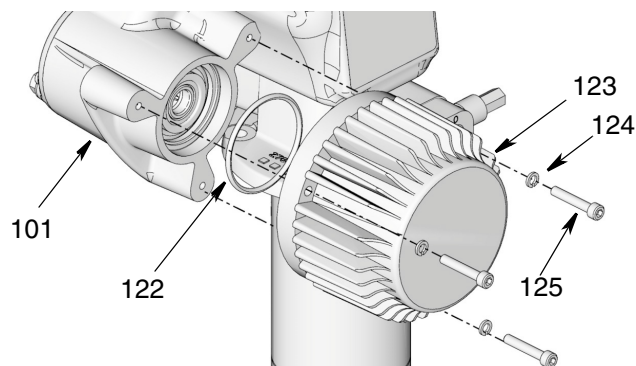

FIG. 57
2. Apply a thin layer of grease to o-ring (122). Install o-ring in housing (101) (FIG. 57).
3. Install new motor (123) using screws (125) and washers (124) (FIG. 57). Use a wrench to tighten screws securely. Torque to 17-19 ft lbs (23.05-25.76 N.m).